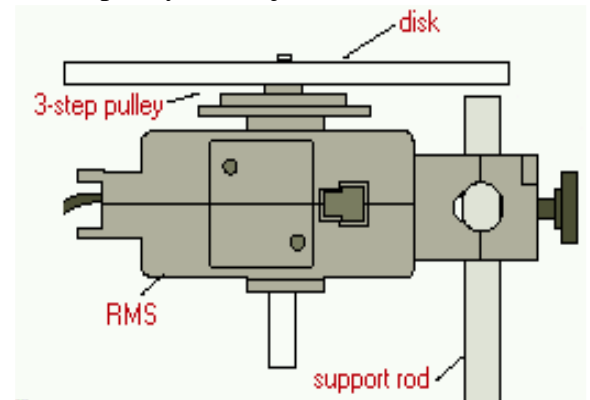

Fig. 1
- The aluminum disk with a square hole in the center is mounted above a three-step pulley onto an axle penetrating the box with RMS (Fig. 1). The system is attached to a support rod of a massive stand for stability.